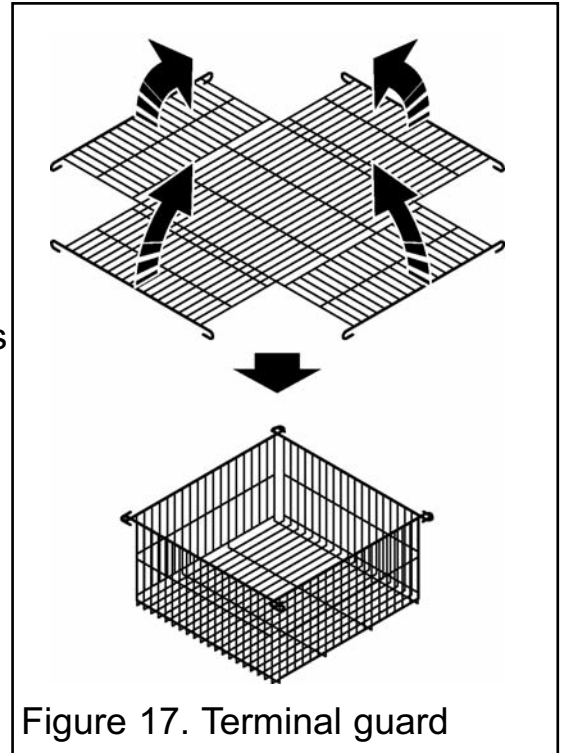

Figure 17. Terminal guard
- Fold the terminal guard as shown in figure 17.